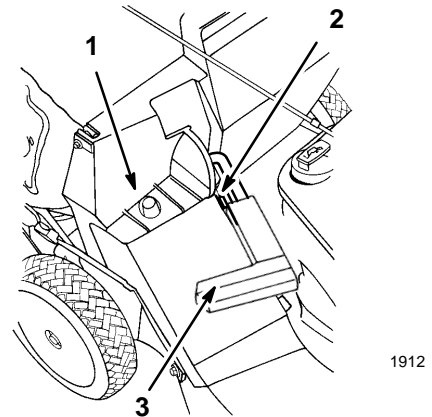
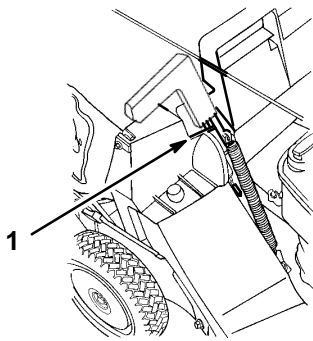

Figure 36
Figure 37
2. Ensure that the discharge door handle is fully forward and the pin is engaged in the catch (Fig. 36).
3. Slide the hole in the bag frame onto the retaining post on the discharge tunnel (Fig. 36).
5. Open the discharge door by pulling the discharge door handle forward until the pin clears the ramp on the bag door and moving the handle rearward until the pin locks in the bag notch (Fig. 37).
8. Pull the discharge door handle up and out of the bag notch (Fig. 37) and pull it forward until it engages the catch (Fig. 36).